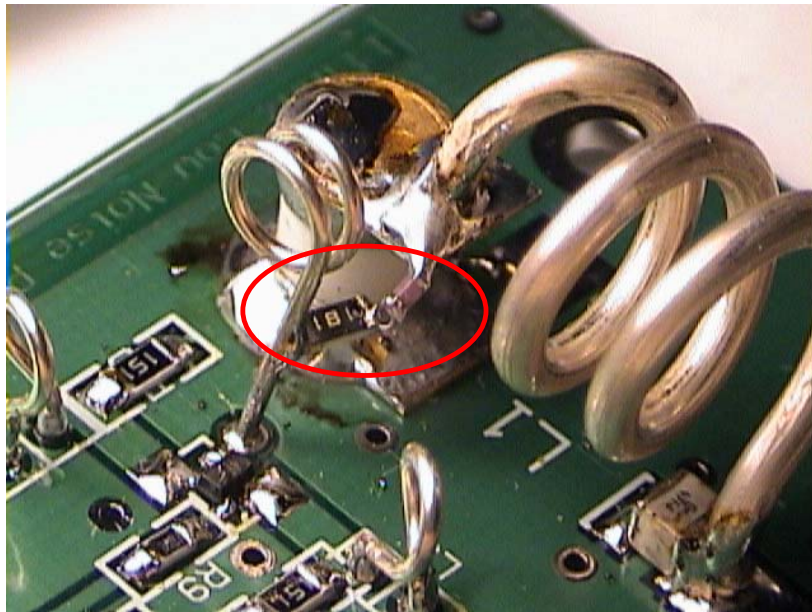

Figure 2: R13 and C3 across L2
Use a solder iron with 2 kind of tips (or 2 different solder irons). One tip needs to be tiny and sharp, and is needed to solder the SMD components. The other must be sturdy tip, and is needed to solder the tuning capacitor (C2), the input coil (L1) and the coupling inductor between C2 and the FET (L2). Figure 2 shows how the series circuit of R13 and C3 is connected across L2.
4. Place the series circuit of R13 and C3 across L2 (figure 2). Use the fine tip;